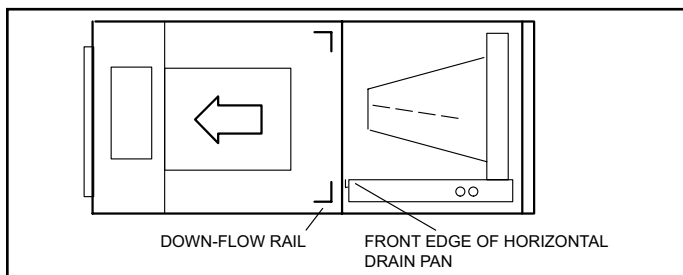

Figure 5. Left-Hand Discharge Configuration
9. Install the horizontal shield (-060 model) on the front edge of the horizontal drain pan as illustrated in Figure 5.